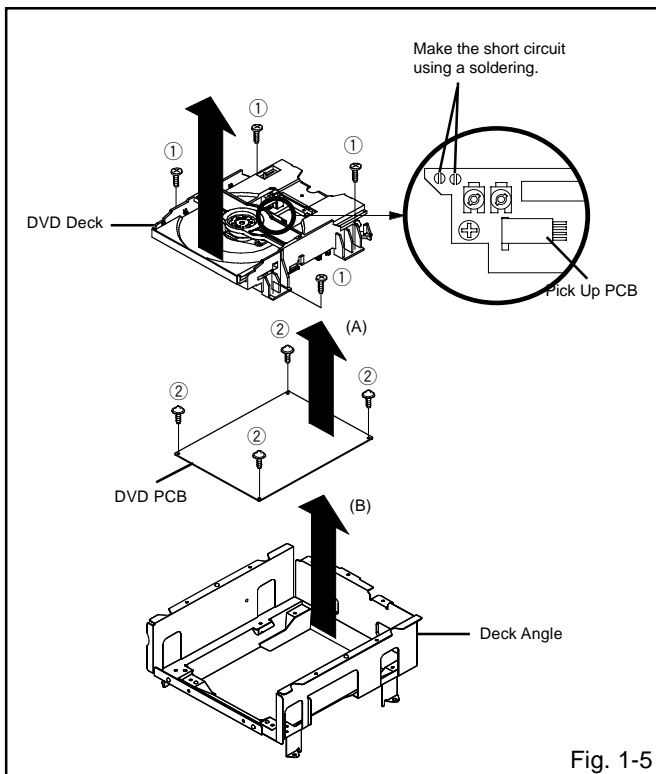

Fig. 1-5
### 1-5: DVD PCB/DVD DECK (Refer to Fig. 1-5)
1. Make the short circuit on the position as shown **Fig. 1-5** using a soldering. If you remove the DVD Deck with no soldering, the Laser may be damaged.